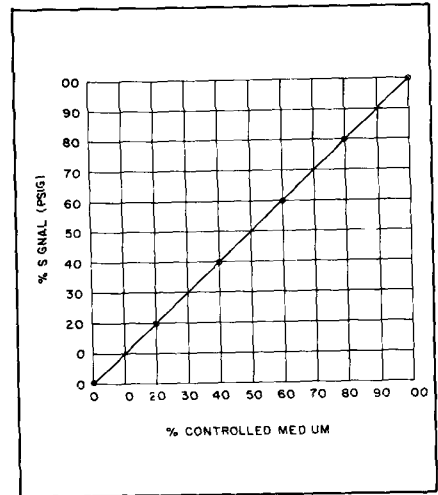

FIGURE 16 Desired Control
- 2 Determine exact controlled medium versus control signal pressure characteristic desired (Figure 16).